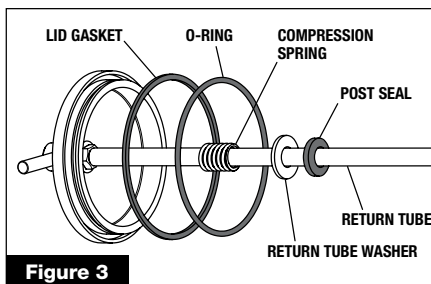

Figure 3
- 6 Remove the top post seal and return tube washer, retaining the washer (**figure 3**).
- 7 Remove lid O-ring and lid gasket (**figure 3**).
- 9 Carefully install the O-ring and lid gasket into lid (**figure 3**).
- 10 Slide the top return tube washer, then the post seal on to the return tube (**figure 3**).